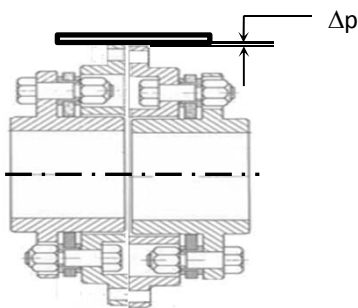
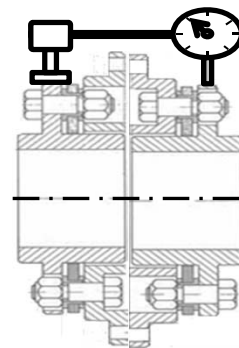

Figure 4 Parallel misalignment measurement
Figure 5 Coupling with dial indicator
1. Initial parallel misalignment can be checked by using a straight-edge across the hub flanges (see Figure 4) to measure the approximate distance Δp . A more precise method is to use a dial indicator or laser system and measure the parallel off-set in at least two locations 90 degrees apart while rotating the hub (see Figure 5).